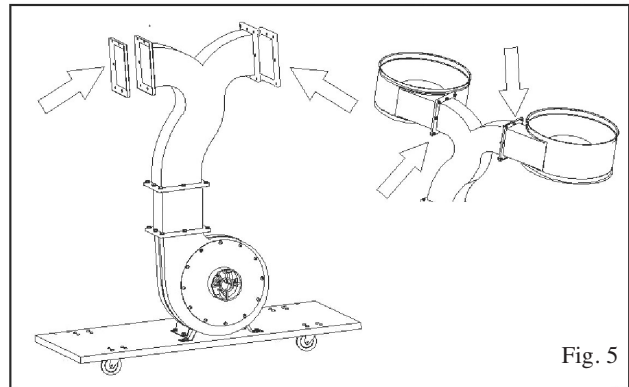

Fig. 5
Next install the two collectors (C) two packing (I) to the outlet as shown in Fig5.